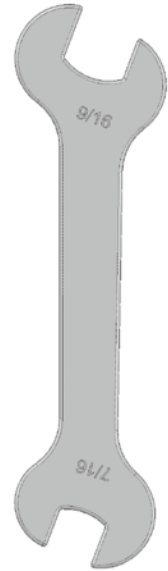

FIGURE 2: NO SLOT IN BASE
- 3 Confirm whether or not your FlexFit™ smart adjustable base has a slot at the head (see Figures 1 and 2). If it has a slot, slide one headboard mounting track **B** into headboard mounting bracket **A** through the slot at the head of the adjustable base (see Figure 1) and attach using two 1/4-20 carriage bolts and nuts. Loosely tighten (for adjustment purposes). If your FlexFit™ smart adjustable base does *not* have a slot (see Figure 2), slide one headboard mounting track **B** into headboard mounting bracket **A** under the base deck at the head of the adjustable base and attach using two 1/4-20 carriage bolts and nuts. Loosely tighten (for adjustment purposes).